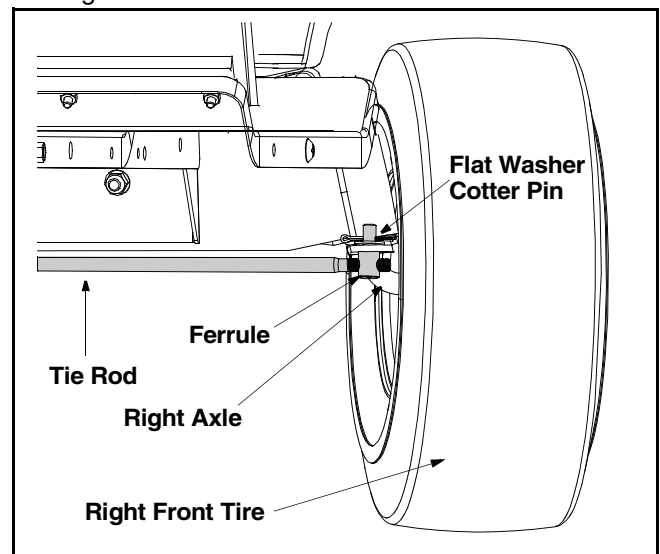

Figure 20
- Locate the ferrule at the right end of the tie rod, just to the rear of the right, front tire of tractor. See Figure 20.